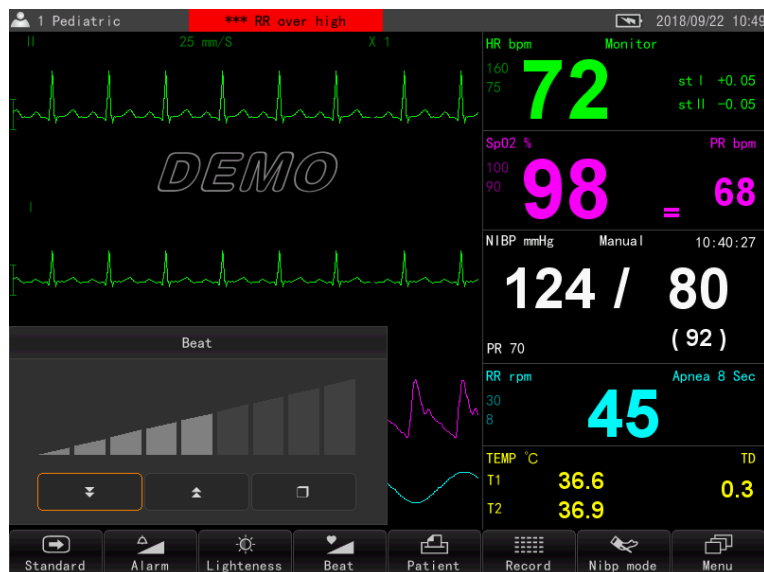

Fig. 4-14
- (4) Beat sound: Adjust the volume of the pulse sound emitted by the monitor through measurement. After entering the beat volume adjustment interface (as shown in Fig. 4-14), the method of adjusting the beat volume is similar to the volume adjustment. The three buttons from left to right are: reduce the beat volume, increase the beat volume, and exit settings window;